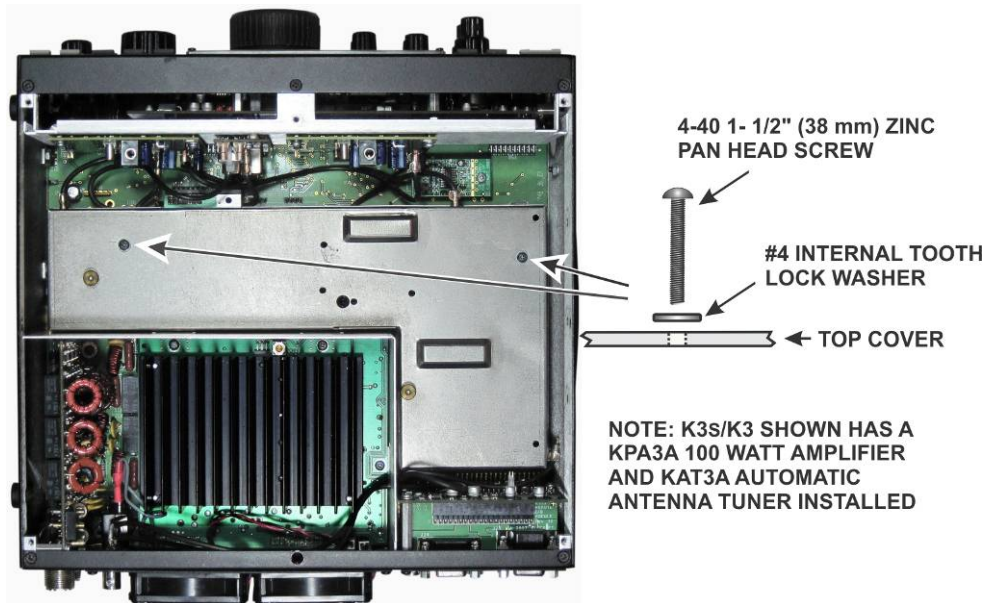

Figure 3. Removing the Sub Receiver Module.
If your K3S/K3 is equipped with the optional sub receiver, you must remove the sub receiver module to install the KPA3A shield. The sub receiver module is the “L” shaped metal enclosure shown in Figure 3. The K3 in the figure has a KPA3A 100 watt amplifier and shield installed showing how it fits next to the sub receiver module.
- Remove the two 1-1/2” (38 mm) screws and lock washers shown in Figure 3. These screws extend all the way through the sub receiver module and secure it to standoffs mounted on the main RF board that fills the bottom of the K3S/K3.